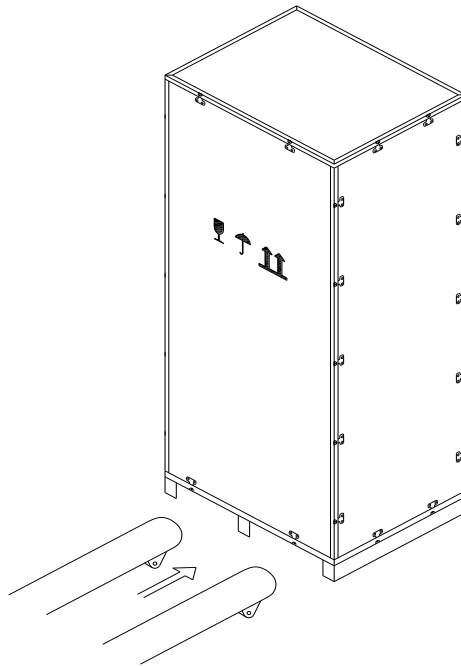

Figure 3-2 Transport to the designated site
- 2) Transport the equipment to the designated site by forklift, as shown in Figure 3-2 :